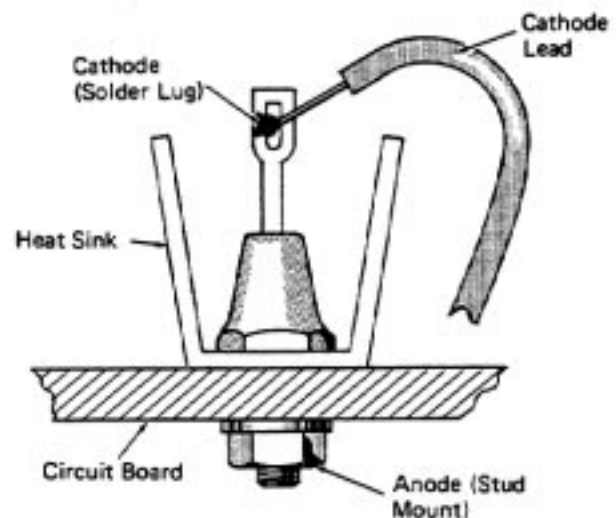

Fig. 18 - Stud Mounted Zener Diode
- a. Connect positive lead of voltmeter to the cathode (solder lug) of Z1, Fig. 18. Connect negative lead to the anode (stud mount) of Z1.
- a. Connect positive lead of test light to anode (stud mount) and negative lead to cathode (solder lug) of Z1, Fig. 18.